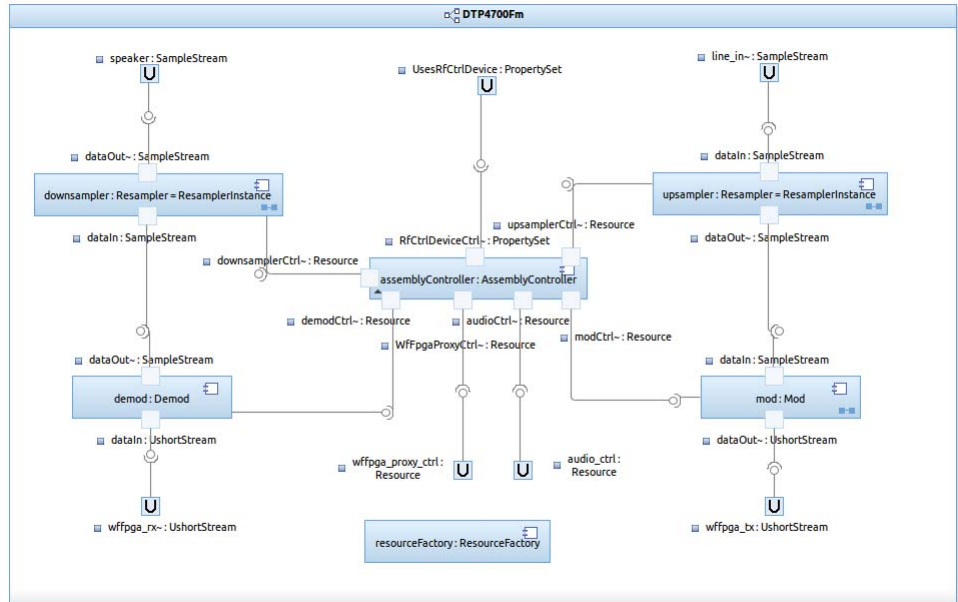

Figure 41 Application Assembly Diagram for the FM waveform
Step 1: In the Project Explorer, expand the folders DTP4700Fm > Models > DTP4700Fm > DTP4700Fm, and double-click the DTP4700Fm diagram model element to display the application assembly diagram as shown in *Figure 41*.